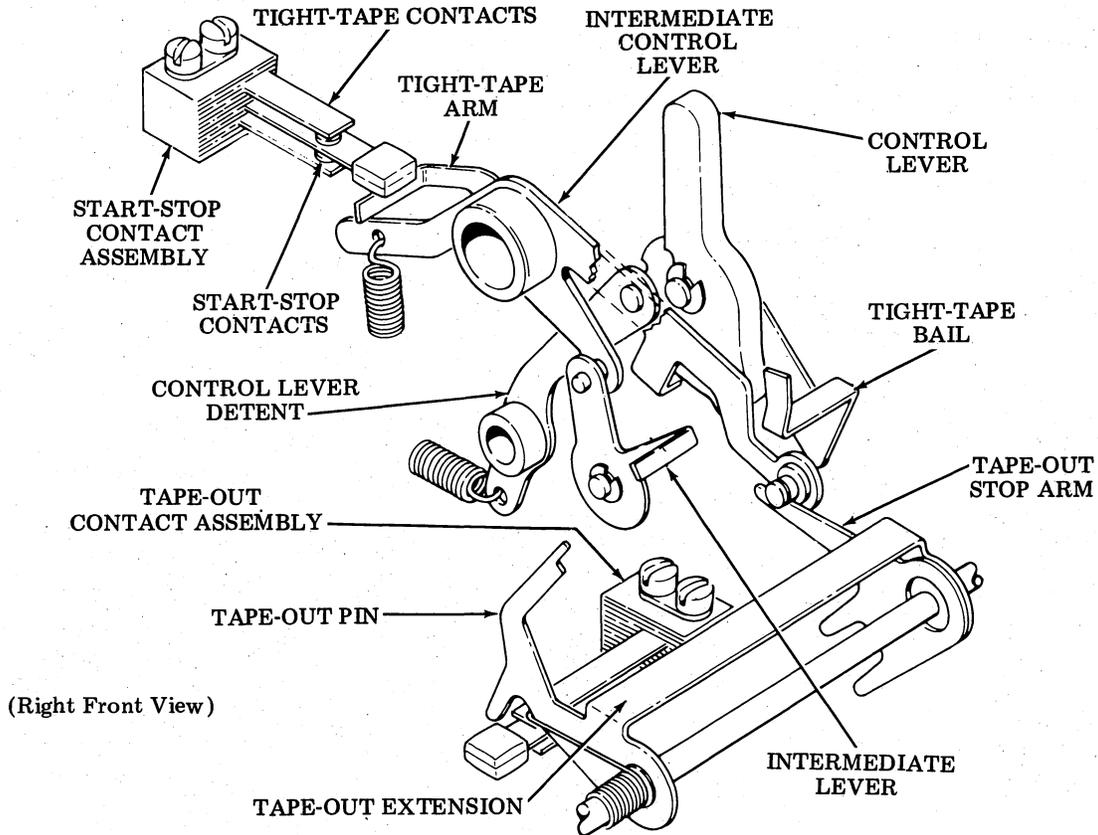

Figure 11 - Control Mechanism
3.05 Moving the control lever to the right (FREE) position results in the following actions (Figure 11).